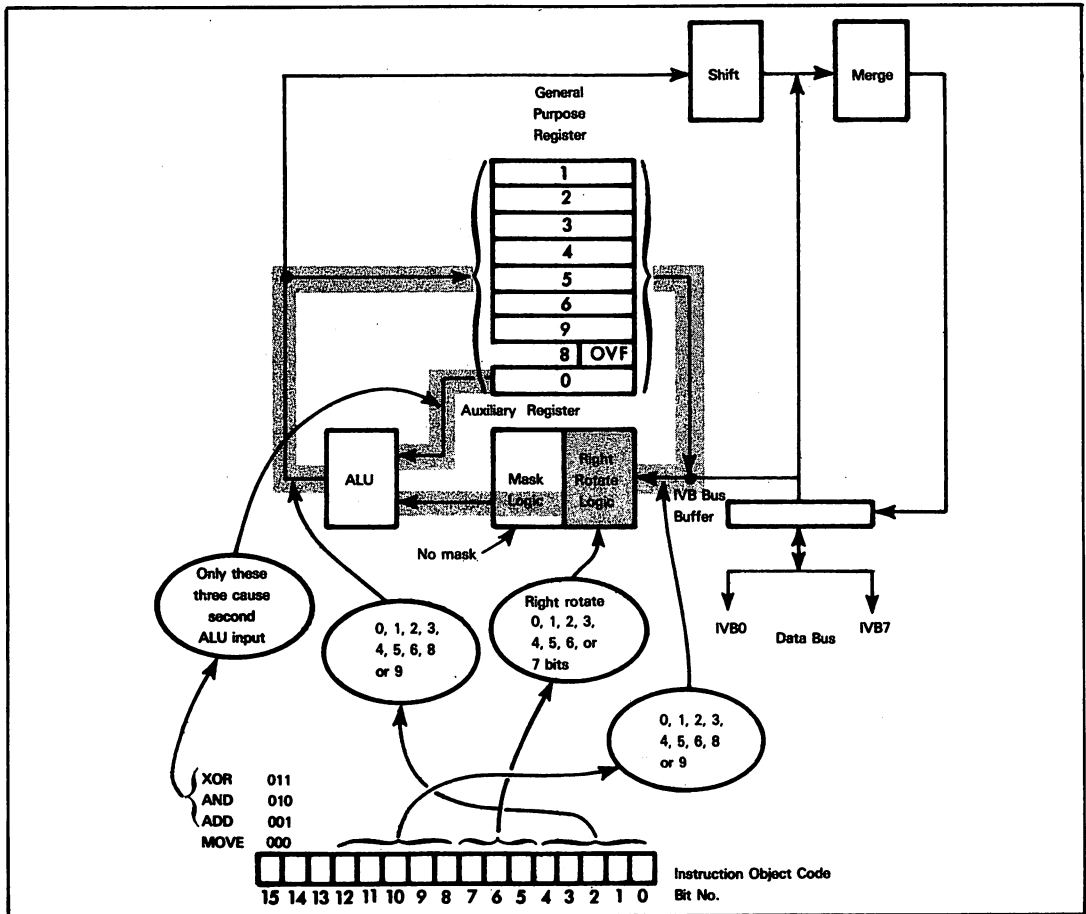
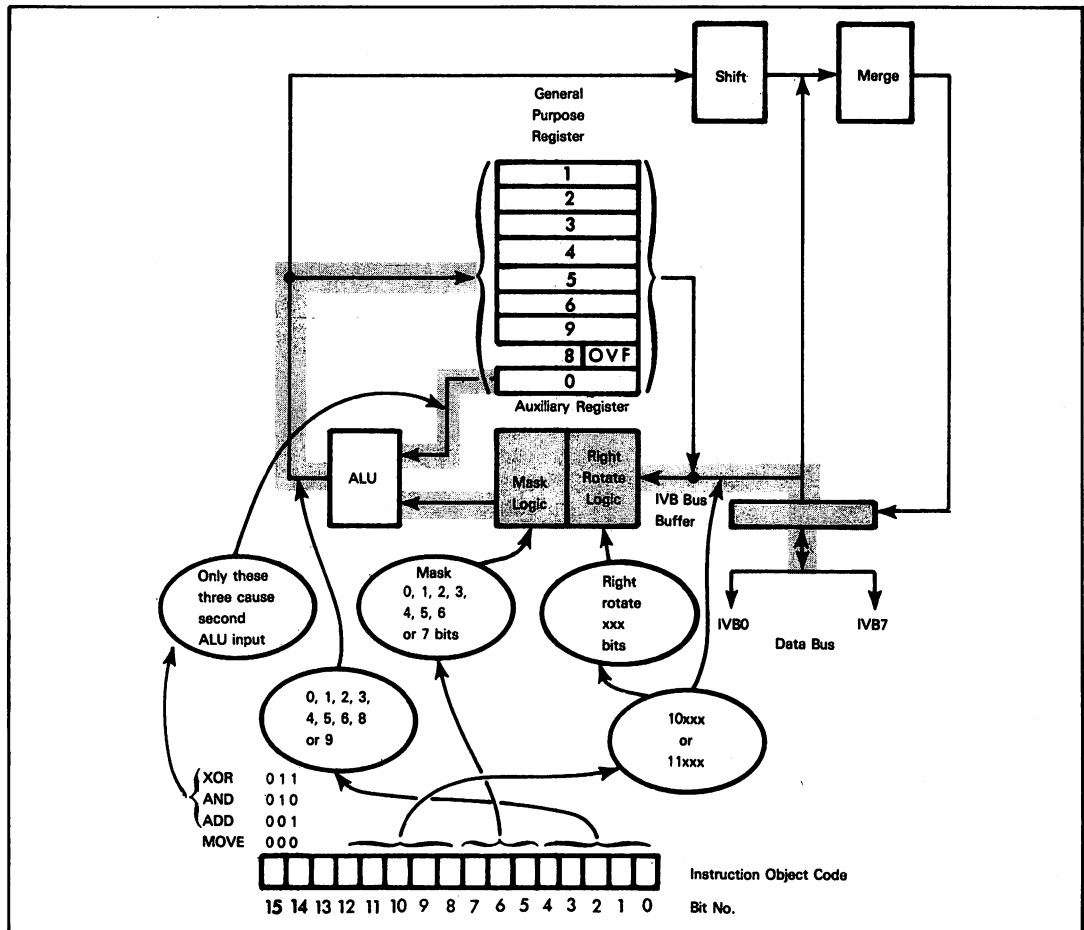

Figure 14-4. An 8X300 Register-to-Register Instruction's Execution
Figure 14-5. An 8X300 IV Byte-to-Register Instruction's Execution
Figures 14-4 through 14-7 illustrate the four possible data paths that may be specified by 8X300 instructions. In all four figures, data entering the ALU from the Auxiliary register is optional, but, if present, requires an Add, AND or XOR operation to be performed.
The various ways in which a Move, Add, AND, or XOR instruction may be executed are illustrated in Figures 14-4 through 14-7. Let us look at these possibilities in more detail.
**When a register is specified as both the source and destination of data, Figure 14-4 defines the operation.** Referring to this figure, note that the source data is rotated, but it is not masked. The second ALU input will only occur if you are executing an Add, AND, or XOR instruction; and in each case the second ALU input will be the unmodified contents of the Auxiliary register.
The classes of instruction illustrated in Figure 14-4 can be listed under the following categories:
**Figure 14-5 illustrates Move, Add, AND and XOR instructions where the IVB Bus is the data source and a general purpose register is the data destination.** Referring to Figure 14-5, observe that the mask and right rotate logic are both involved. Bits 5, 6 and 7 of the instruction object code, which in Figure 14-4 specify the amount of right rotation, in Figure 14-5 specify the degree of masking which will occur. Bits 8, 9 and 10 in Figure 14-5 specify the amount of right rotation which will occur.
The Format B instruction object code uses bits 5 through 12 to specify the currently selected left bank or right bank IV byte, where byte contents will be subject to a mask and a rotate, as illustrated in Figure 14-5.